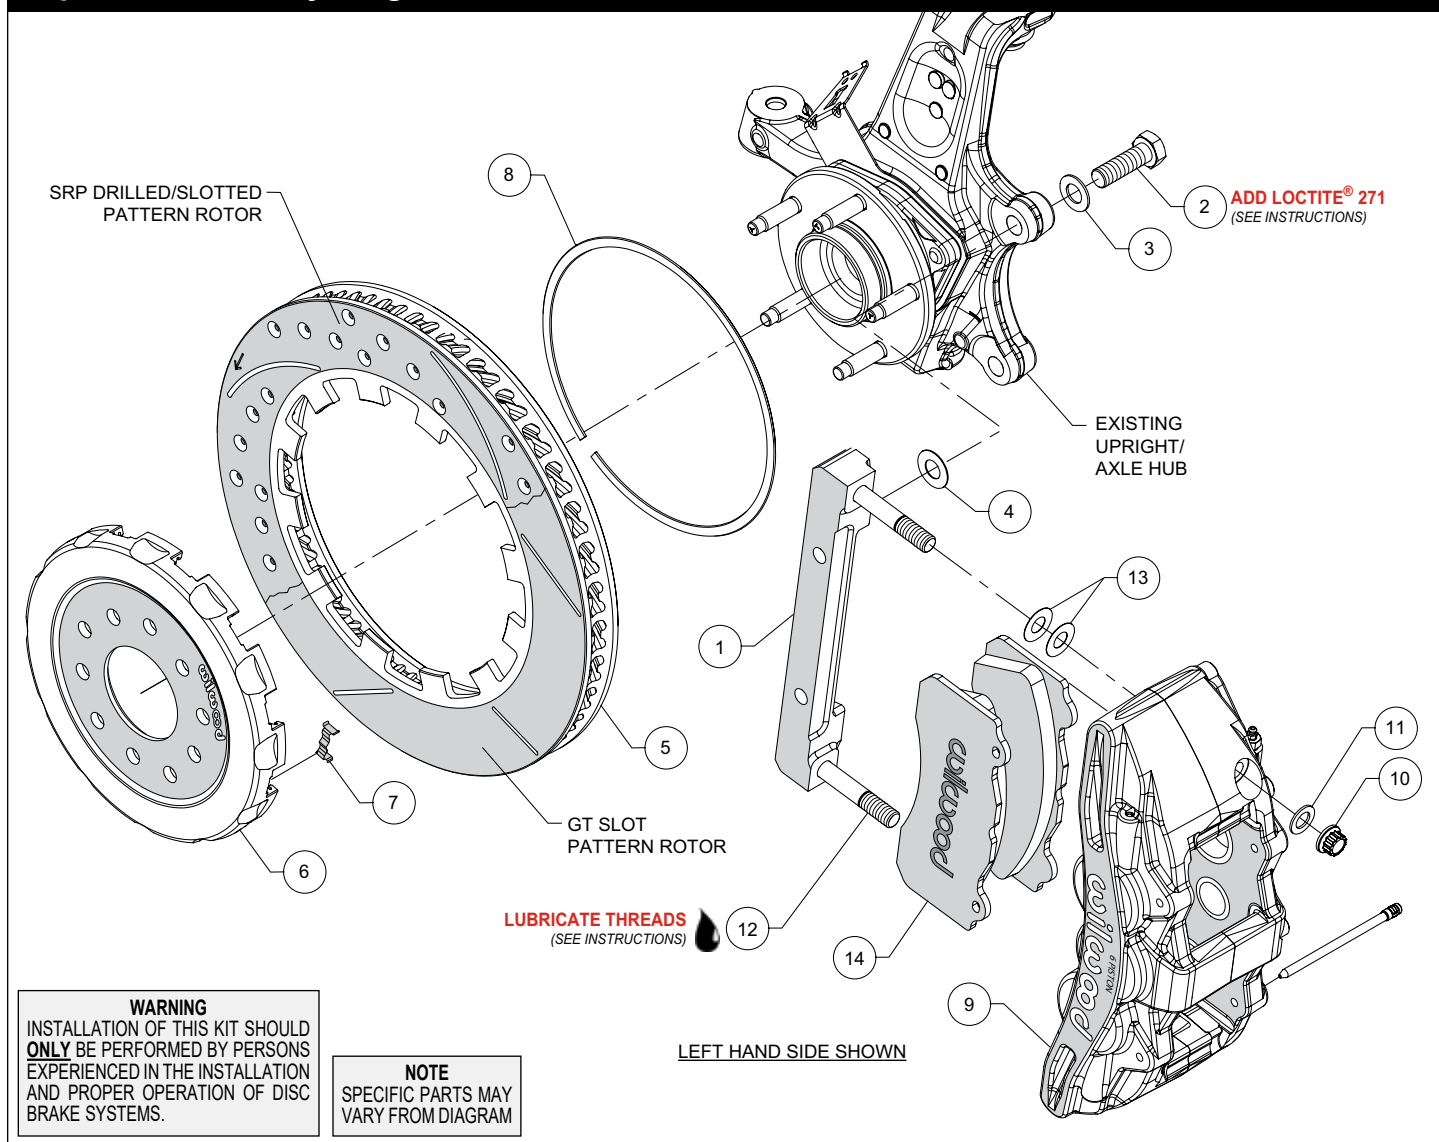

Figure 1. Typical Installation Configuration
**NOTE:** Numbers in parenthesis refer to the parts list and Figure 1 on the preceding pages.
- The caliper mount bracket (1) should initially be installed with clean, dry threads on the mounting bolts. Orient the bracket, as shown in Figure 1 and Photo 1, and install using bolts (2) and washers (3). Initially place one .029" thick shim (4) on each bolt between the bracket and upright, Figure 1. Temporarily tighten the mounting bolts. **NOTE:** The bracket must fit squarely against the mount bosses on the upright. Inspect for interference from casting irregularities, machining ridges, burrs, etc. Later, after the caliper alignment has been checked, the mount bolts will be secured using red *Loctite*® 271.
- Insert the dynamic mount wear clips (7) into the slots in the hat (6), Photo 2. Orient the rotor (5) as shown in Figure 1 and Photo 3, with the flush side of mount lugs facing the hat. Secure the rotor to the hat using the snap ring (8) by simultaneously pushing down on the rotor and installing the ring into the groove in the hat, as shown in Photo 4. Carefully inspect snap ring to ensure complete engagement in the groove.
- NOTE:** This kit contains distinct right and left hand calipers that must be mounted in a specific direction, as described below. Lubricate the caliper mounting studs (12) with lightweight oil. Initially place two .015" thick shims (13) on each stud between the caliper and the bracket, as shown in Figure 1 and Photo 6. Mount the caliper (9) onto the bracket (1) using lock nuts (10) and washers (11), Figure 1. Temporarily tighten the lock nuts. Ensure that the caliper is mounted so the largest pistons are at the rotor exit end of the caliper, in relation to the forward direction of the rotor. View the rotor through the top opening of the caliper. The rotor should be centered in the caliper, Photo 7. If not, adjust by adding or subtracting shims (4) between the bracket and the upright. Always use the same amount of shims on each of the two mounting bolts. Once the caliper alignment is correct, remove the bracket mounting bolts (2) one at a time, apply red *Loctite*® 271 to the threads, and torque to 105 ft-lbs.
- Remove the two pad retaining pins from the caliper (9) by pushing out the pins from the tapered end using a blunt instrument. Insert the brake pads (14) into the caliper from the bottom, Figure 1 and Photo 8. With the friction material facing the rotor, secure the brake pads in place with the pad retaining pins, Photo 9. Reinstall the caliper onto the caliper mounting bracket and temporarily tighten the lock nuts. Check that the top of the brake pad is flush with the outside diameter of the rotor, Photo 10. If not, adjust by adding or subtracting shims (13) between the caliper and the bracket. After the caliper pad height is set, torque the caliper lock nuts (10) to 65 ft-lb.